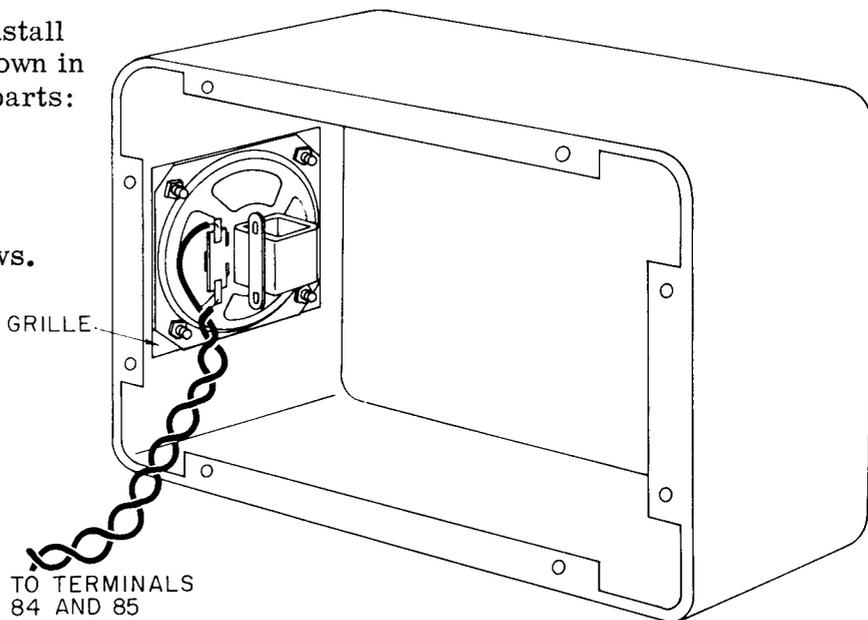

FIG. 14. Mounting the loudspeaker.
The next thing you are to do is to install the loudspeaker in the cabinet, as shown in Fig. 14. You will need the following parts:
- () Place the speaker grille over the front of the speaker, and punch holes in the grille to match the holes in the speaker frame. Mount the speaker and grille inside the cabinet over the large hole in one end, with the speaker terminals toward the front opening of the cabinet as shown in Fig. 14. Line up the four holes in the cabinet, grille, and speaker. Insert a 3/8" 6-32 screw from the outside of the cabinet through each of the four holes. Put a No. 6 lockwasher and a 6-32 nut on each screw, and tighten them.